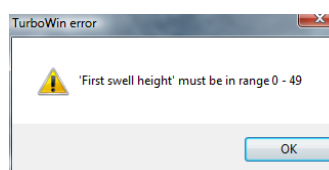

Figure 20. Error message
10.5.10. An error message, similar to that at **Figure 20**, will appear if the height is omitted.